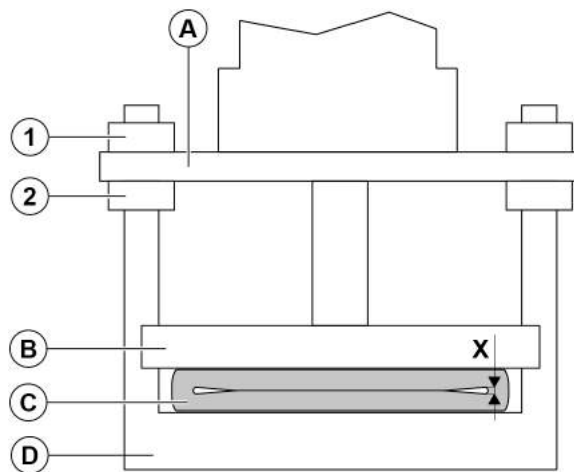

Figure 16.
6. Wrenching the rest of the sleeve through the flange with a pry bar / bending iron (see *Figure 16*).